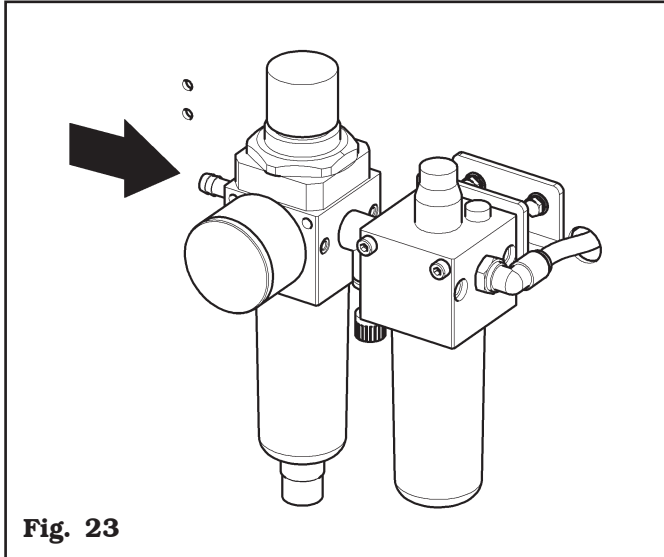

Fig. 23
Connect the wheel balancer to the centralised compressed-air system by means of the connection on the back of the machine (see **Fig. 23 ref. 1**).